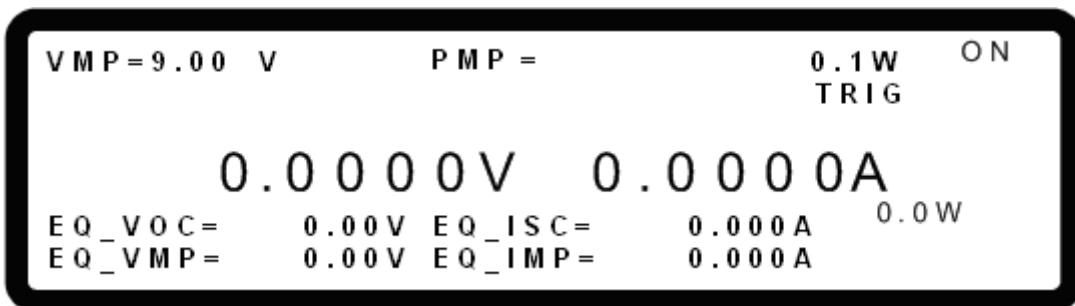

Figure 3-168
6. Press “**ON/OFF**” again to start program execution. The EN50530 MODE main screen will display as shown in Figure 3-168. To quit, press “**EXIT**” to return to the MAIN PAGE.
Figure 3-168 shows the screen during EN50530_MODE output. The EQ_VOC, EQ_VMP, EQ_ISC and EQ_IMP are the actual operating points that are calculated based on the settings of VMP and PMP using the built-in formula.